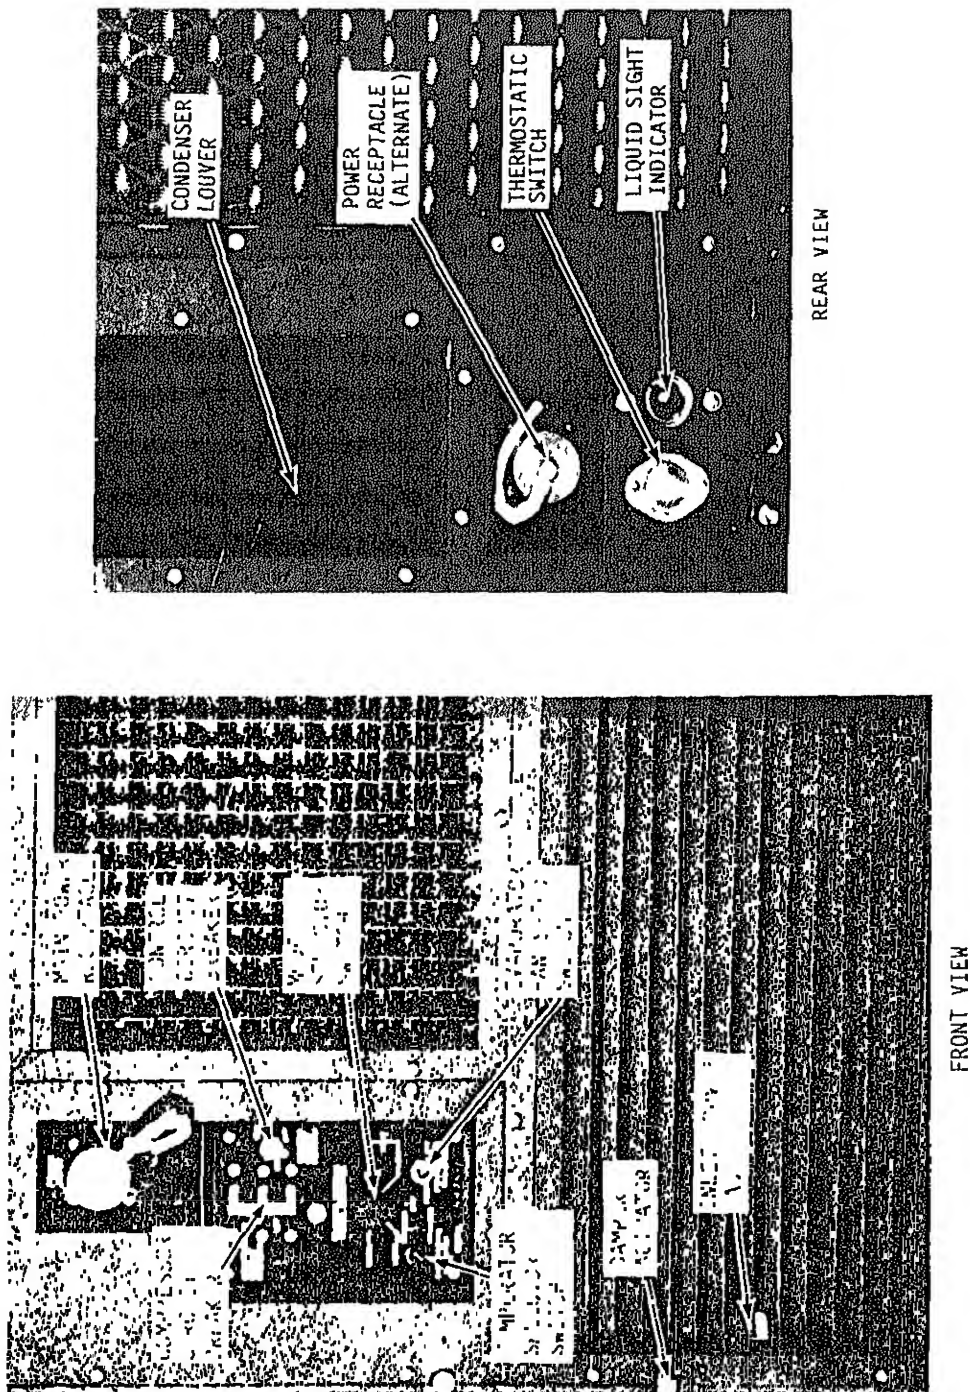

Figure 2-1. Controls and instruments
a. General. The location and the function of the controls and instruments are illustrated in figure 2-1. The control module contains the control circuit breaker, the manually operated temperature selector switch, mode selector switch, evaporator fan speed switch and compressor circuit breaker. The control module is designed to permit remote control operation of the air conditioner when connected with a remote control cable. The thermostatic control point of the air temperature is determined by the location of the temperature selector switch sensing bulb. Normally, the air conditioner is operated with the control module remaining on the unit and the sensing bulb of temperature selector switch located in the inlet air stream inside the unit evaporator section.
(1) Off. The off mode position is used to stop operation. All major electrical components are isolated from electrical power except the compressor crankcase heater, which is thermostatically controlled as long as input power is connected to the unit.
(2) Vent. In the vent mode position, the evaporator motor operates and the fans circulate filtered air. Ventilation air will be drawn into the unit through the fresh air filter and vent duct if the damper door in the vent duct is open. Some cooling effect will occur if the ventilation air is cold. Ventilation air flow is controlled by opening and closing the damper door with the vent adjusting knob.
(3) Cooler. In the cooler mode position, the refrigerant cycle begins, and the unit will cool under the thermostatic control of the temperature selector switch. The evaporator fan motor, condenser fan motors and compressor are activated and will operate continuously. The speed of the evaporator fan motor is controlled by manually selecting the desired speed position of the evaporator fan speed switch. The speed of condenser fan motors is automatically controlled by an outdoor thermal switch. The motors will operate in low speed when ambient temperature is below 100°F (38°C). The thermal switch automatically switches the motors to high speed if ambient temperature rises above 100°F (38°C). To prevent starting surge current of the compressor coinciding with the starting surge current of the fan motors, the compressor starts about 30